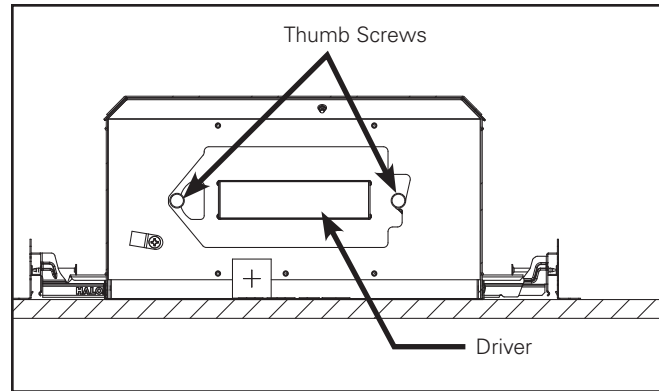

Figure 14
5. Loosen two driver door mounting thumb screws about 3 turns (Figure 14).
7. Disconnect driver wiring. Remove two nuts to remove driver from driver door. Attach new driver to driver door in orientation shown (Figure 14). Connect new driver wiring.
8. Push wiring back into junction box and install driver door over thumb screws (Figure 14). Tighten thumb screws.